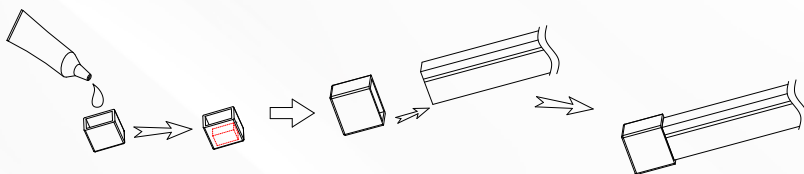

Figure 2
2. The plug will be filled with glue, and put the neon flex into the plug, the installation is complete, as shown in Figure 2.
5. Fill the plug with glue, and repeat Figure 2 gluing steps, and then insert the neon flex into the plug, installation completed, as shown in Figure 5.